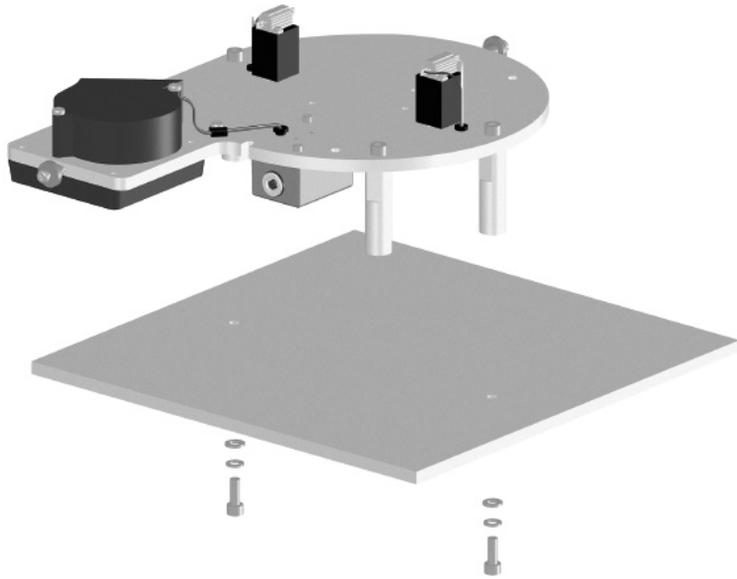

Figure C-6. Mounting CVF4 feet to a mounting stand
4. Fasten the CVF4 feet to the mounting stand by using the supplied washers and screws (Figure C-6 [p. 26]).